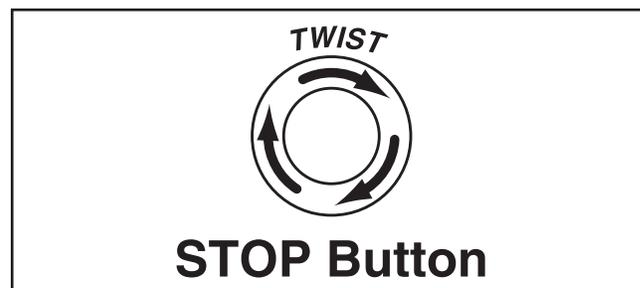

Figure 69. Resetting the STOP button.
4. Push the STOP button in, then twist it clockwise so it pops out. When the STOP button pops out, the switch is reset and ready for operation (see **Figure 69**).